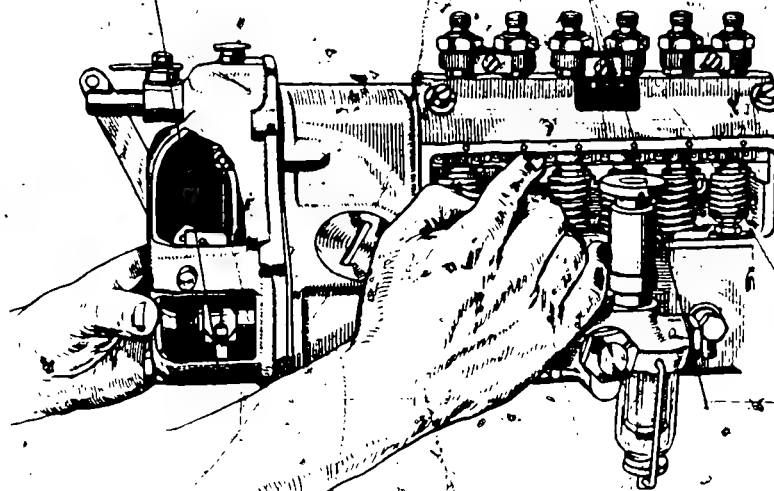

Fig. 14 Mounting the cover of the governor
7. Push the control rod to "stop" position and hold it there. Set control lever (16) obliquely upwards. Mount governor cover from above (see Fig. 14) so that the sliding block (14) is easily introduced into its guide formed by the floating lever (15).